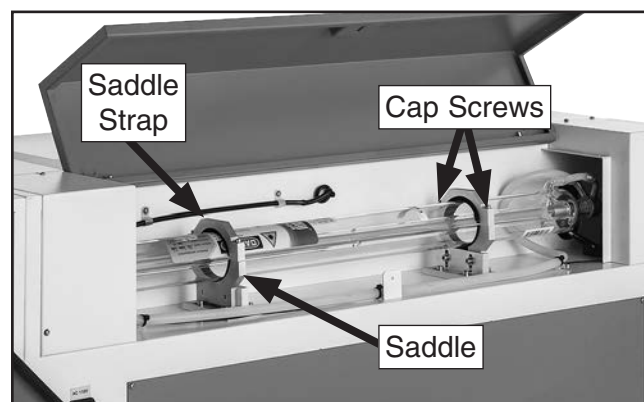

Figure 86. Laser tube saddle components.
10. Remove saddle-strap cap screws in an alternating pattern, and then remove saddle straps, as shown in **Figure 86**.